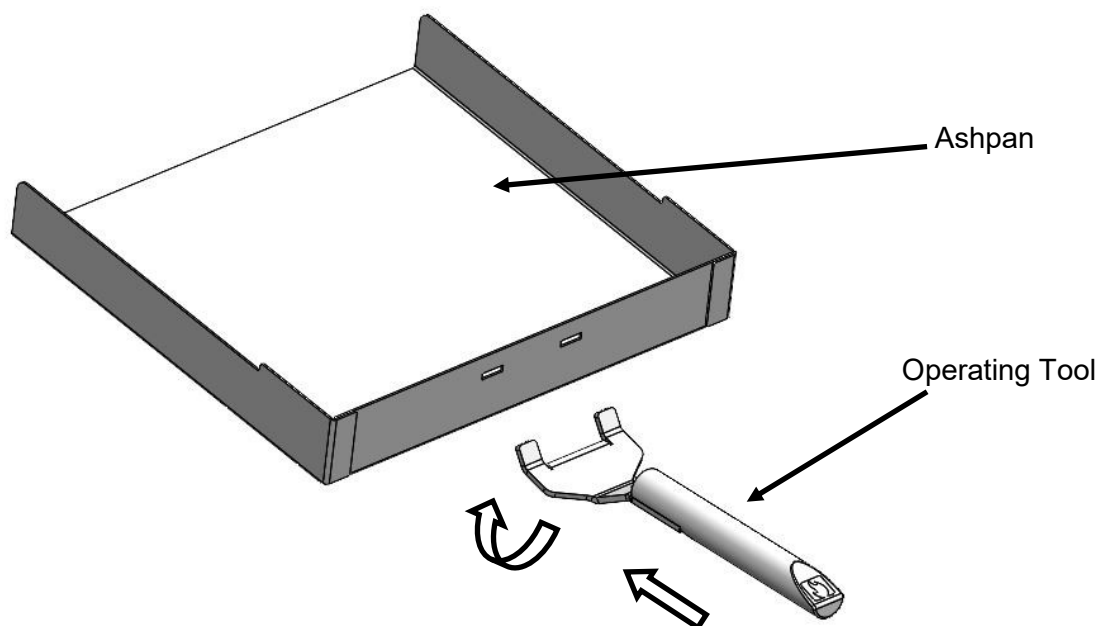

Fig. 7. Ash Pan & Operating Tool
- Insert the fork end of the operating tool into the ash pan (see Fig. 7.).